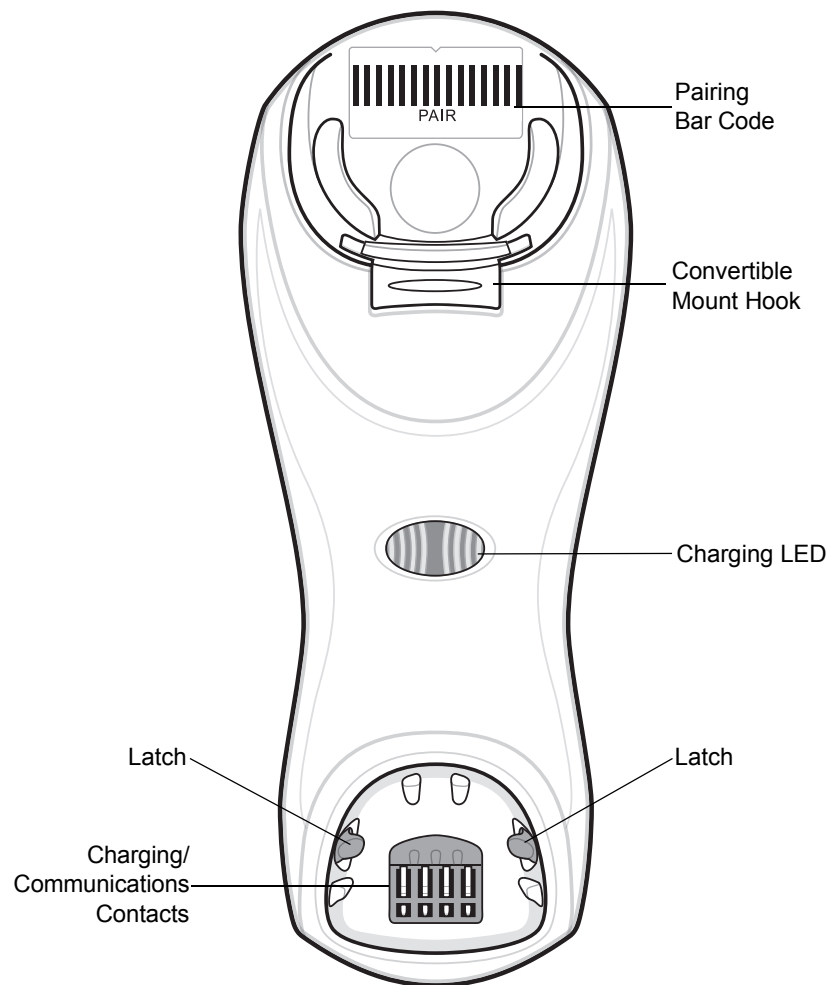

Figure 1-3 CR0078-S/CR0008-S Series Cradle Front View
2. Ensure the convertible mount hook on the front of the cradle is inserted with the hook facing up. If not, remove and reverse the hook so that it is in position to secure the digital scanner in place. (See Figure 1-3 on page 1-4 for the location of the convertible mount hook.)